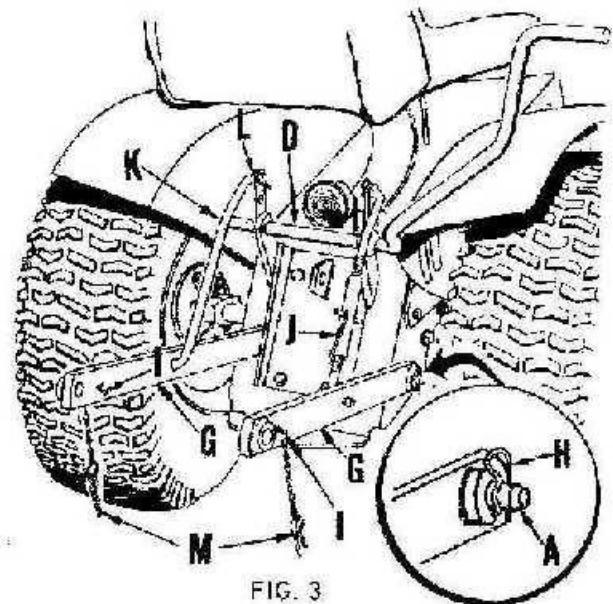

FIG. 3
6. Refer to Fig. 3. Assemble lower hitch bar and bushings (G), over lower link pins (A). Secure by inserting retainer springs (H), through holes in outer ends of lower link pin (A). Both R.H. and L.H. sides.
7. Assemble cotter pins of chain, ring and cotter assembly (I), to lower hitch bar and bushings (G), as shown in both R.H. and L.H. sides, refer to Fig. 3. Spread ends of cotter pins to secure.
8. Refer to Fig. 3. Assemble upper and lower links (J), to "turnbuckle with spring", to R.H. lower hitch bar (G), and in outer hole in arm on hitch mounting assembly (D), as shown. Secure with 5/32 x 1 cotters.
NOTE: Offset in lift links to top as shown in Fig. 3.
9. See Fig. 3. Assemble lift link - L.H. (K), to L.H. side in like manner and also secure with 5/32 x 1 cotters.